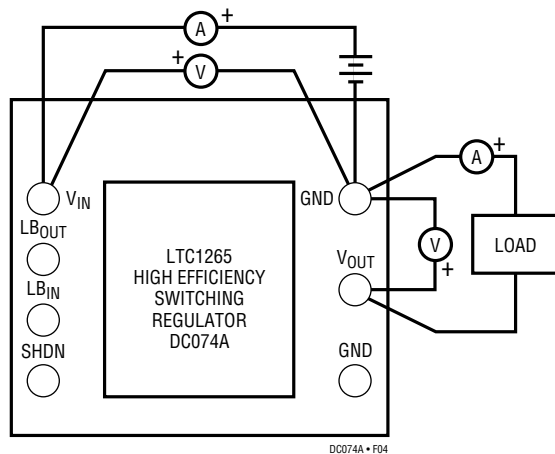

Figure 4. Proper Measurement Setup
- Refer to Figure 4 for proper arrangement of measurement equipment setup
When trying to measure voltage regulation remember that all measurements must be taken at the point of regulation. This point is where the LTC1265's control loop looks for the information to keep the output voltage constant. This information occurs between Pin 7 and Pin 11 of the LTC1265. These points correspond to the output terminals of the demonstration board. Test leads should be attached to these terminals. **Measurements should not be taken at the end of test leads at the load.** Refer to Figure 4 for proper monitoring equipment configuration.